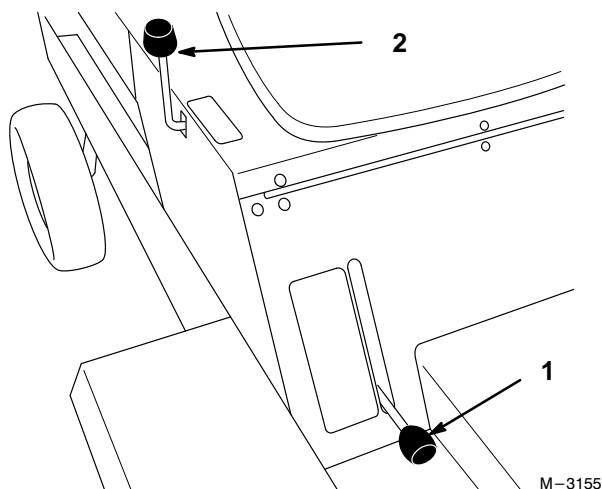

Figure 8
2. Lift the parking brake lever up (Fig. 8) to apply the parking brake.
1. Move the parking brake lever down (Fig. 8) to release the parking brake.
The implement lift lever (Fig. 8) is used to raise and lower various attachments.
2. Pull implement lift lever (Fig. 8) rearward to raise attachment to the desired height.
2. Push implement lift lever (Fig. 8) forward to lower attachment.